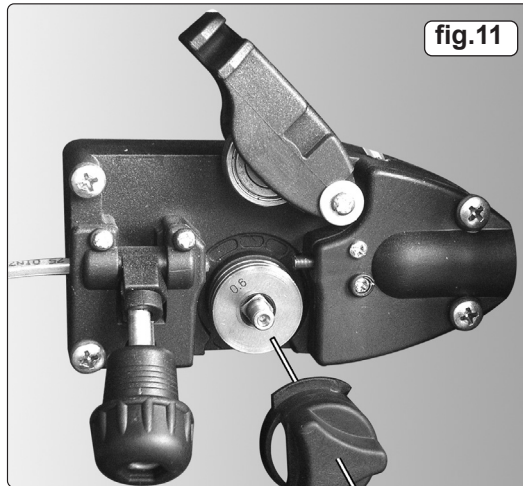

fig.11
6.5.1. There are two grooves on the feed roller, 0.6mm and 0.8mm. Always have the groove that is being used on the outside of the roller (nearest to you). To turn the feed roller first loosen the wire tension knob and move it into its down position (see fig.10-1) then move the tensioning roller assembly to its up position (see fig.10-2). Take hold of the triangular knob on the roller retainer and rotate it 90° anticlockwise to release it as shown in fig.10.3. Now pull the roller retainer off the drive spindle to reveal the roller as shown in fig.11.